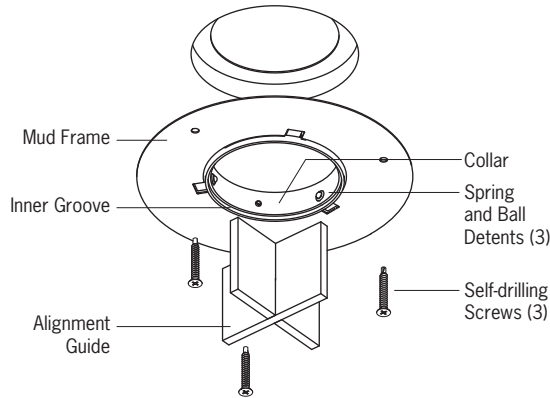

FIGURE 2
- NOTE:** Markings on Universal Module indicate direction of adjustability, careful consideration of orientation during installation will aid in aiming. (Figure 2).
- Module tilt adjustment can be performed using a finger or with the convenience slot for a flat blade screwdriver. (Figure 2).
- Using the three (3) self-drilling screws provided, drive them through the holes in the mud frame and up through the mounting frame above the ceiling.